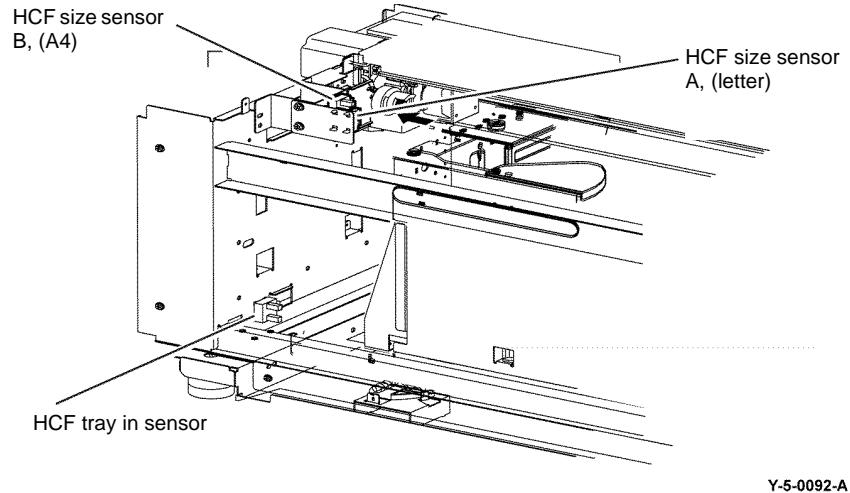
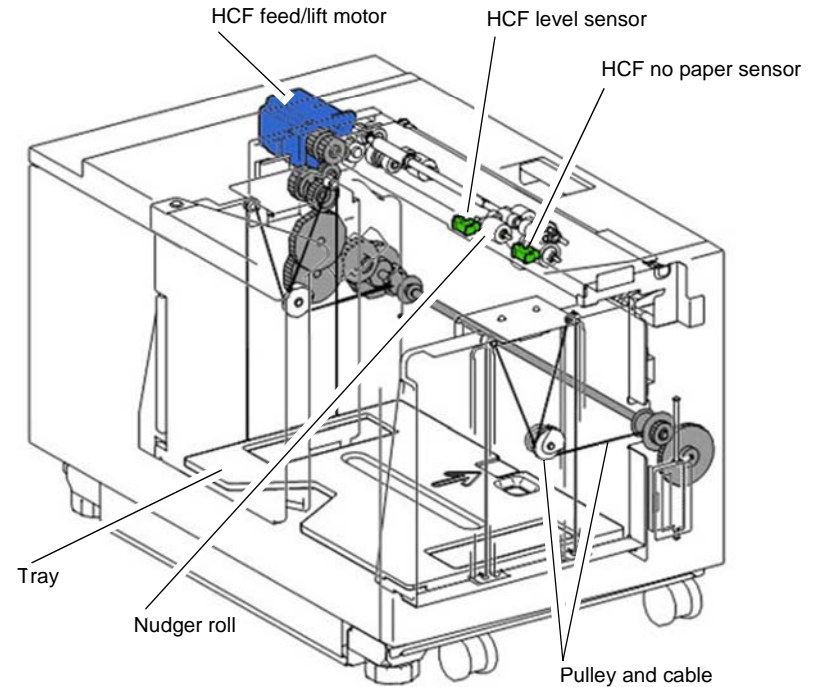

Figure 21 HCF tray in and paper size sensors
Figure 22 HCF level sensor
Refer to Figure 21. The HCF tray in sensor detects that the HCF drawer is in the operating position. This prevents the HCF feed/lift motor, PL 80.60 Item 23, from operating with the drawer open.
Size sensing is determined by the HCF size sensor (A) and the HCF size sensor (B). The paper tray guides actuate the size sensors, Figure 21 and Table 1.
When the HCF tray is pushed in and actuates the HCF tray in sensor, Figure 21, the following sequence of events occurs, refer to Figure 22:
The control logic calculates the amount of paper that remains in the HCF tray by the time it takes for the paper stack to deactivate the HCF level sensor, Figure 22. The value is then displayed on the UI for operator information. Refer to Table 2 for the time/quantity relationship.
If the HCF is empty, the HCF no paper sensor will actuate, and a Tray Empty message will display, Figure 22.